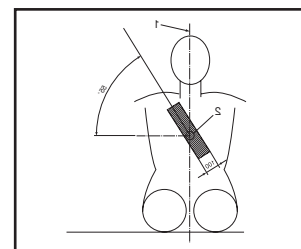

Figure 4
- The diagonal belt should run over the shoulder and chest as shown in Figure 4.